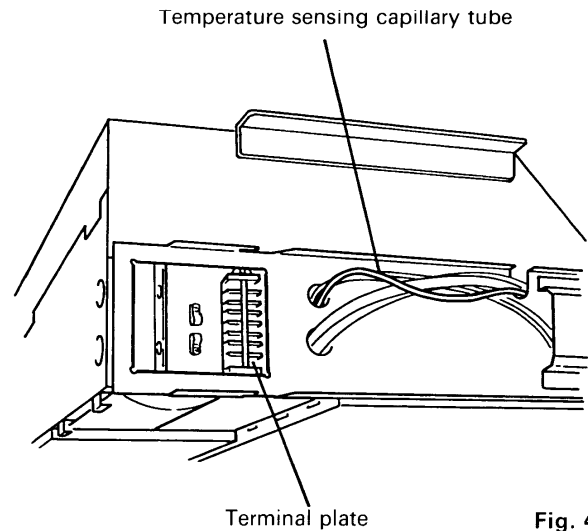

Fig. 4
- (2) Unclamp and stretch the temperature sensing capillary tube for the anti-freeze thermostat. Fig. 4